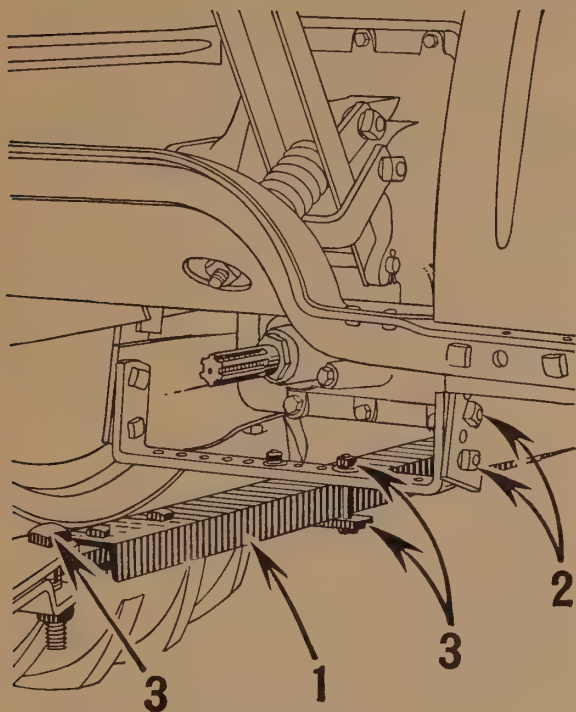

Fig. 20
1. (Fig. 20.) Remove swinging drawbar from tractor and replace with longer one furnished.
2. (Fig. 20.) Secure swinging drawbar guide on tractor in set of holes shown—both sides.
3. (Fig. 20.) Clamp swinging drawbar in a central position and connect Binder to drawbar as shown.